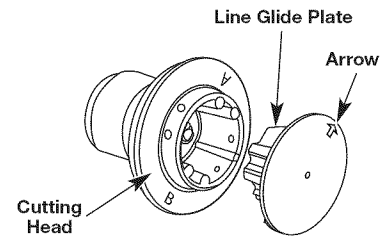

Fig. 23
3. Reinstall line glide plate (Fig. 23). Align arrow with: "A" when using medium (red) or large (black) line, or "B" when using lines with diameters smaller than medium (red) line